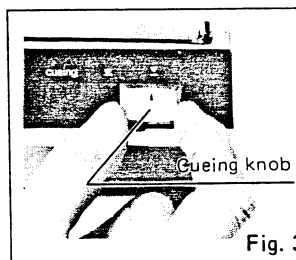

Fig. 3
5. Set the cueing knob to the "▼" position. (See Fig. 3.)